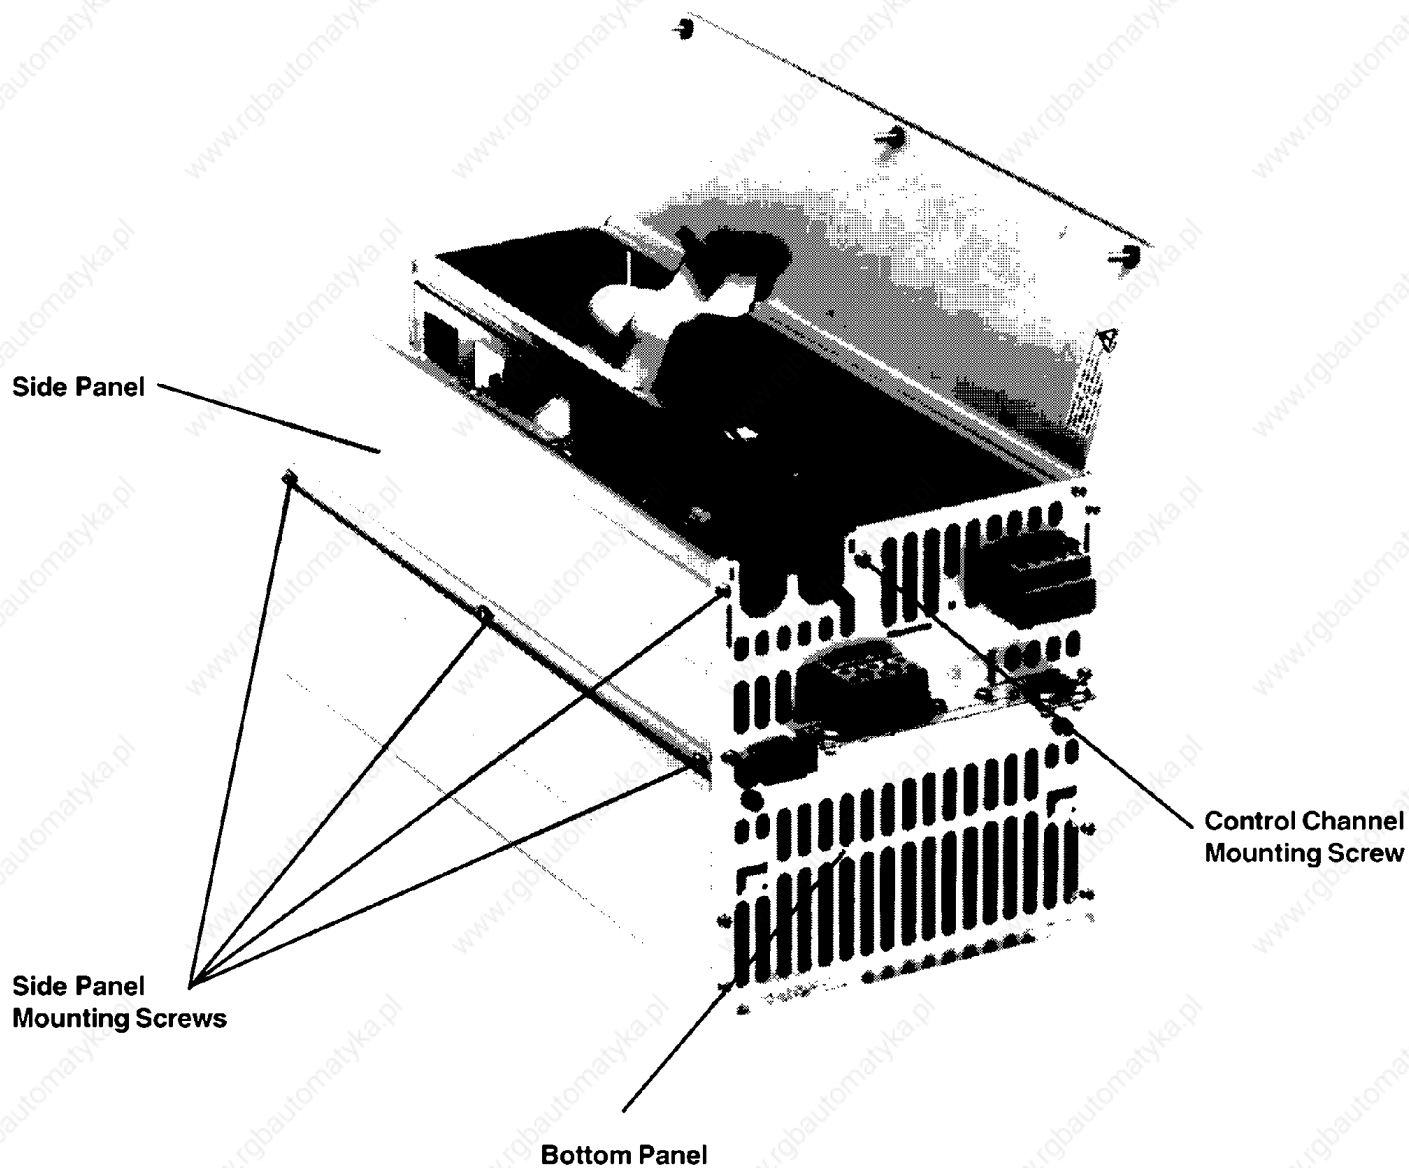
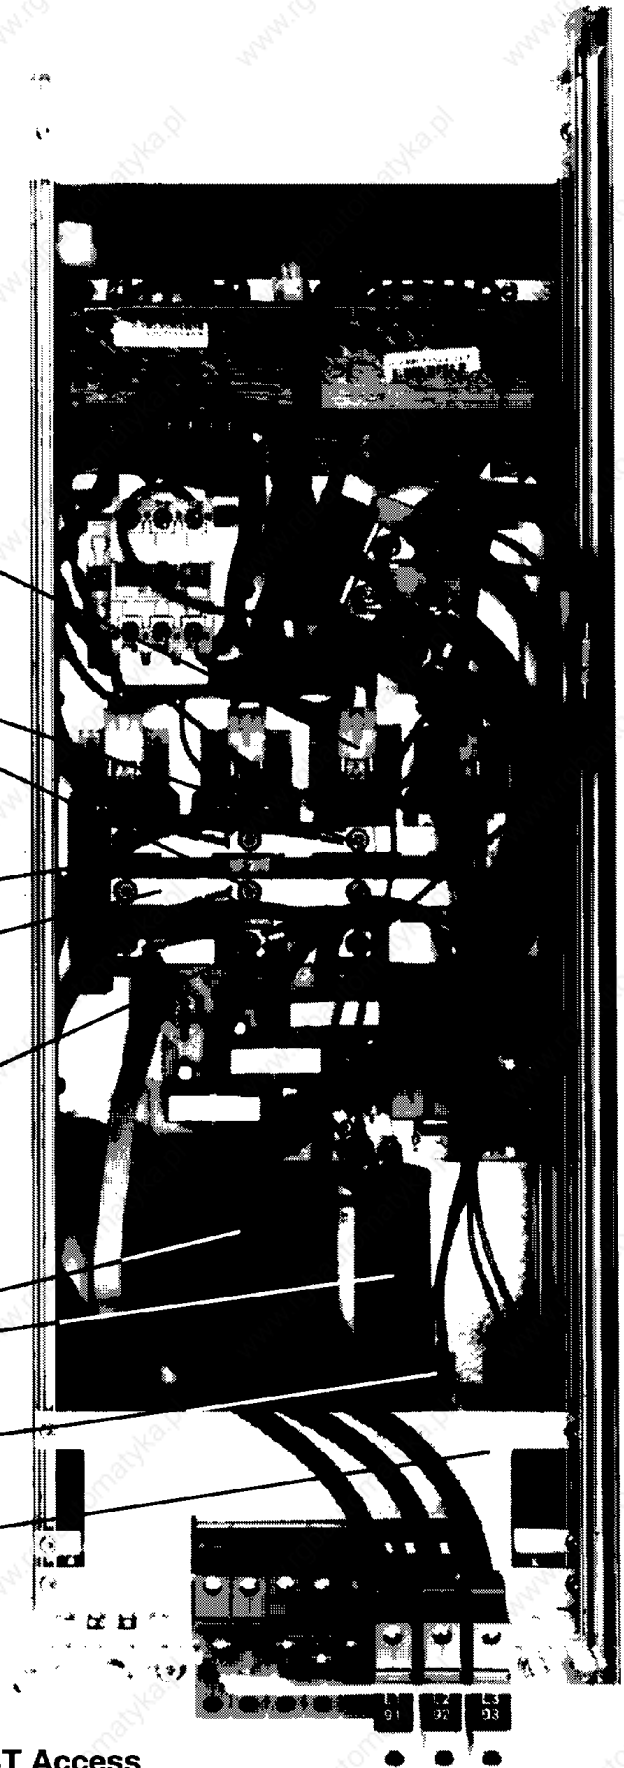

Figure 9: Side Panel Removal
Figure 11: IGBT Access
4. Remove retaining screws from side panel (see Figure 9). Remove two (2) retaining screws from bottom panel. Disconnect two (2) ribbon cables from power board. Remove two (2) ribbon cable retaining plate screws. Remove side panel with control channel and ribbon cable retainer attached.
2. Remove bottom plate from unit by removing attaching screws (see Figure 9).
3. Remove power terminal assembly plate by removing six (6) attaching screws.
4. Remove bus bar attaching screws from IGBT modules (see Figure 11).